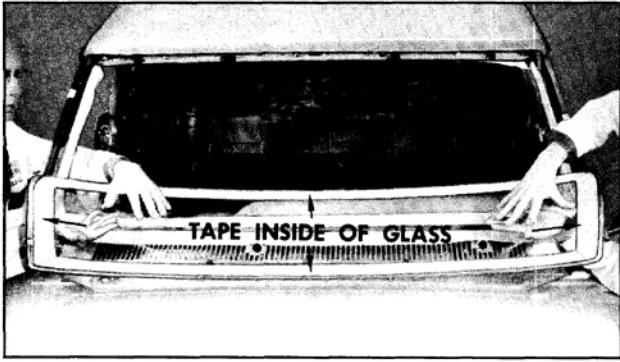
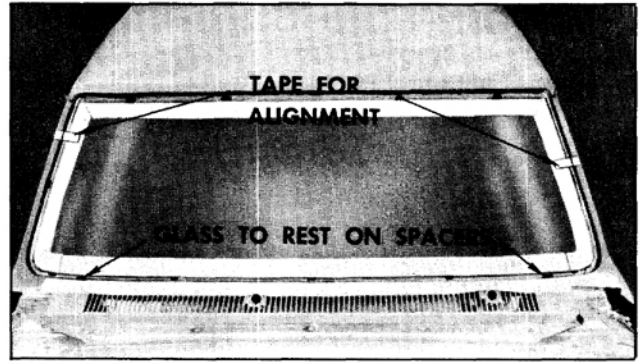

Fig. 16-307 Tape Applied to Inside of Glass
Fig. 16-309 Glass Alignment to Opening
3. Apply 2" wide masking tape to inside of windshield glass 1/4" inboard from edge of glass, first across the top, each side, then the bottom. (Fig. 16-307)
5. Set glass in opening, shim glass spacers as necessary to properly align glass to opening. The glass should overlap the pinchweld flange 3/16". Mark glass to windshield pillars with tape to assist in proper alignment at time of installation. (Fig. 16-309)
While one man holds glass in this position, the second man can reach around the windshield pillar and hold glass; then, first man can reach around windshield pillar. (Fig. 16-307) Carefully position glass to plane of opening, making certain that glass is properly centered and positioned to opening and resting on lower spacers, using tape on glass and windshield pillars as a guide. (Fig. 16-309)
3. Apply two inch wide masking tape to inside of windshield glass 1/4" inboard from edge of glass, first across the top, each side, then the bottom. (Fig. 16-307)
7. Set glass in opening and shim glass spacers as necessary to properly align glass to opening. The glass should overlap the pinchweld flange 3/16" minimum. Mark glass to windshield pillars with tape to assist in proper alignment at time of installation. (Fig. 16-309)
17. With aid of helper, lift glass with one hand on outside of glass and one hand on inside of glass. Carefully move glass up to windshield opening, maintaining glass in a horizontal position. While one man holds glass in this position, the second man can reach around the windshield pillar and hold glass; then, first man can reach around windshield pillar. (Fig. 16-307) Carefully position glass to plane of opening, making certain that glass is properly centered and positioned to opening and resting on lower spacers. Use tape on glass and windshield pillars as guide. (Fig. 16-309)